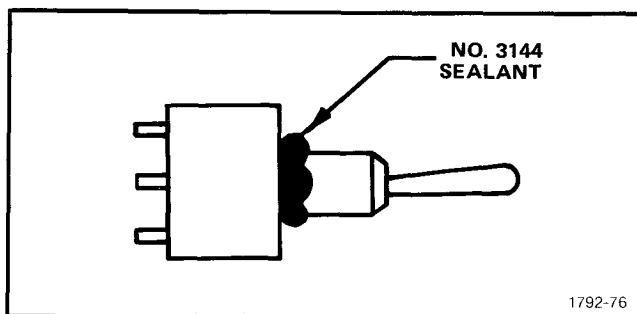

Fig. 5-23. Application of sealant to RECORD toggle-switch bushing.
21. Install the Record control (see Figs. 5-23, 5-24, and 5-25)
1. Form a bead of No. 3144 sealant around the bushing/switch body interface as shown in Fig. 5-23.